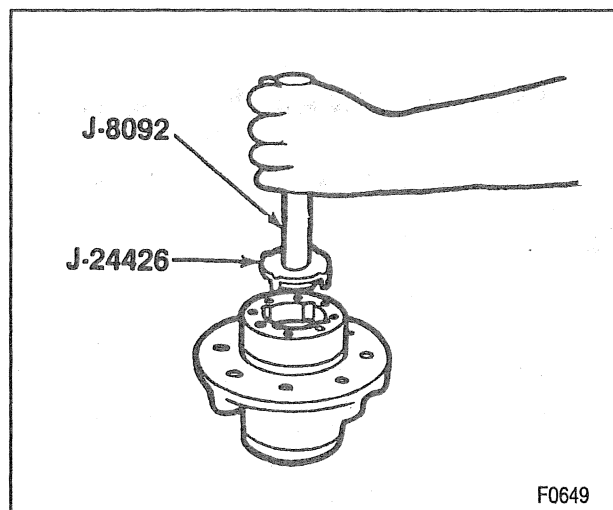

Figure 23—Removing or Installing the Outer Bearing Cup
6. Outer bearing using J 8092 with J 24426 (figure 23).
Install or Connect (Figure 23)